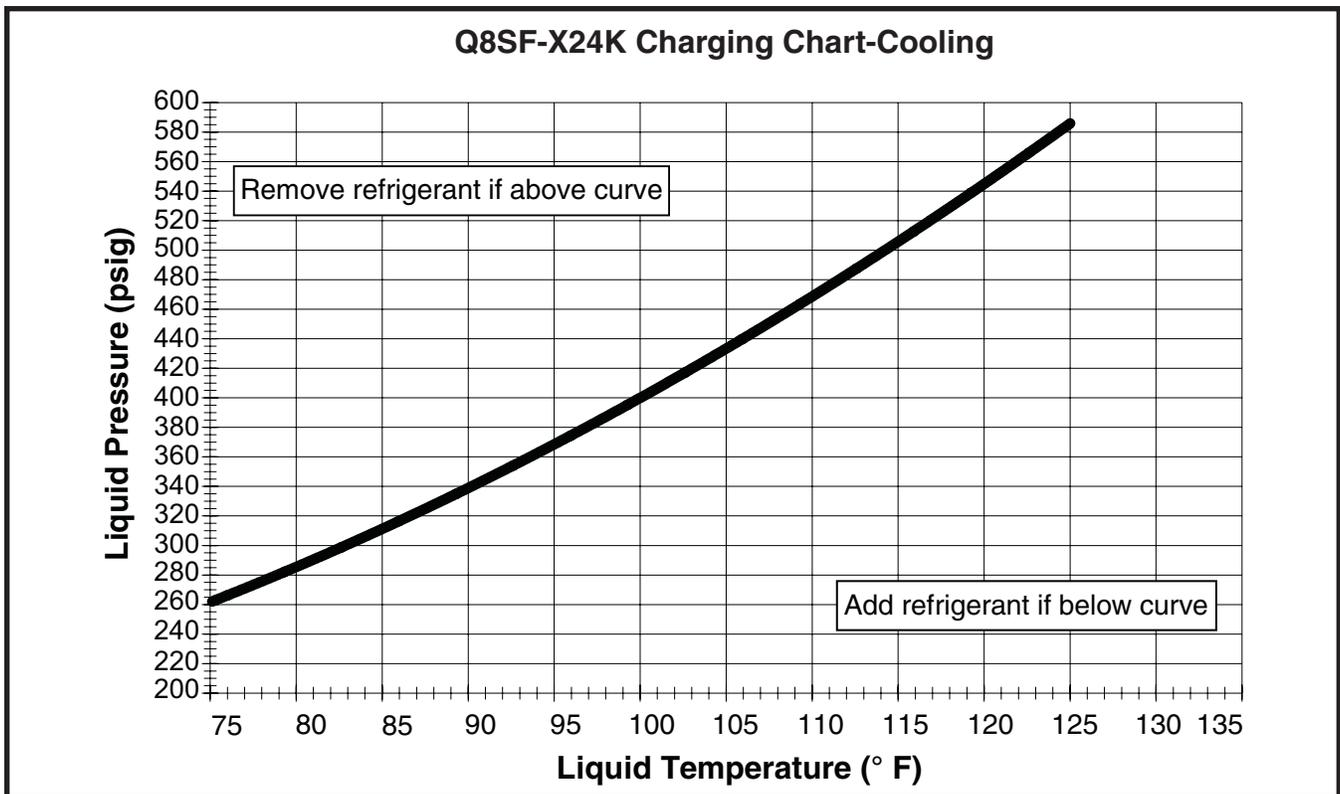
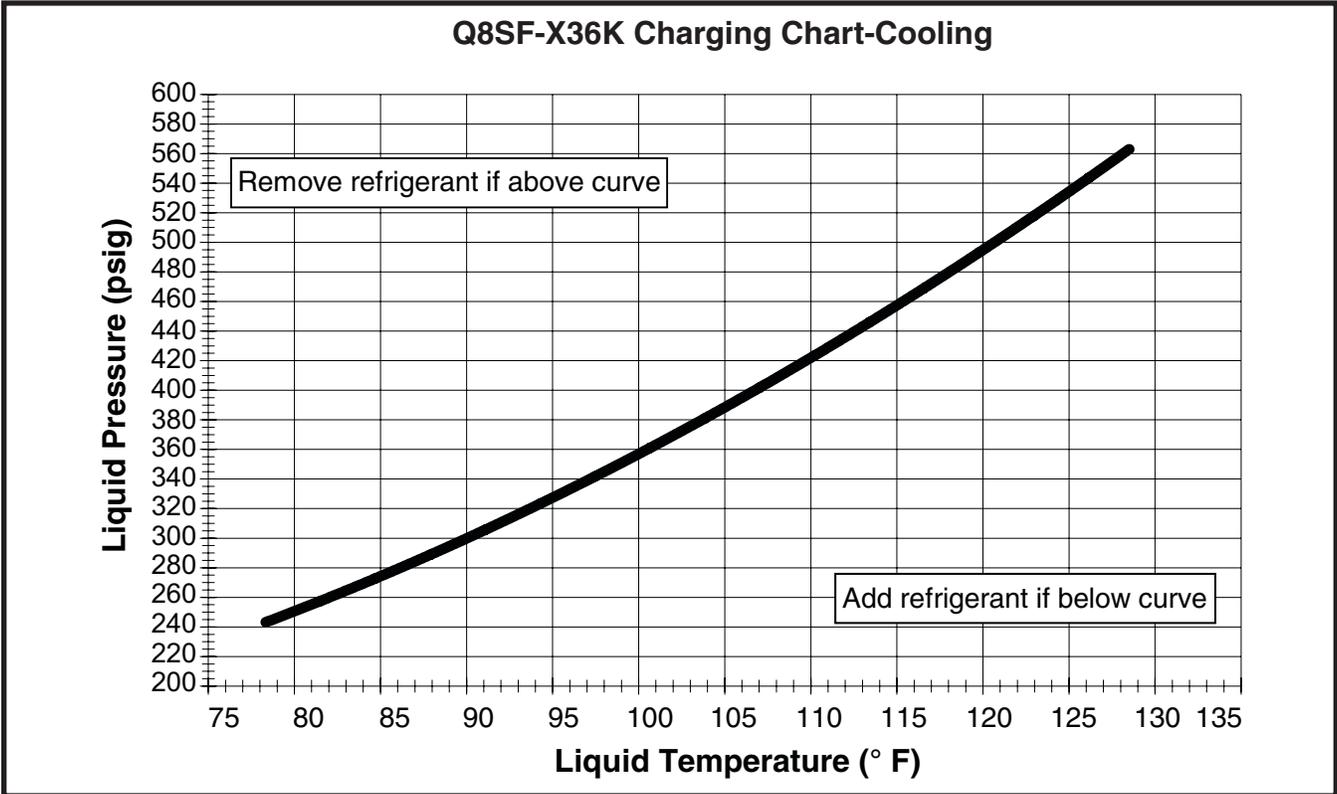
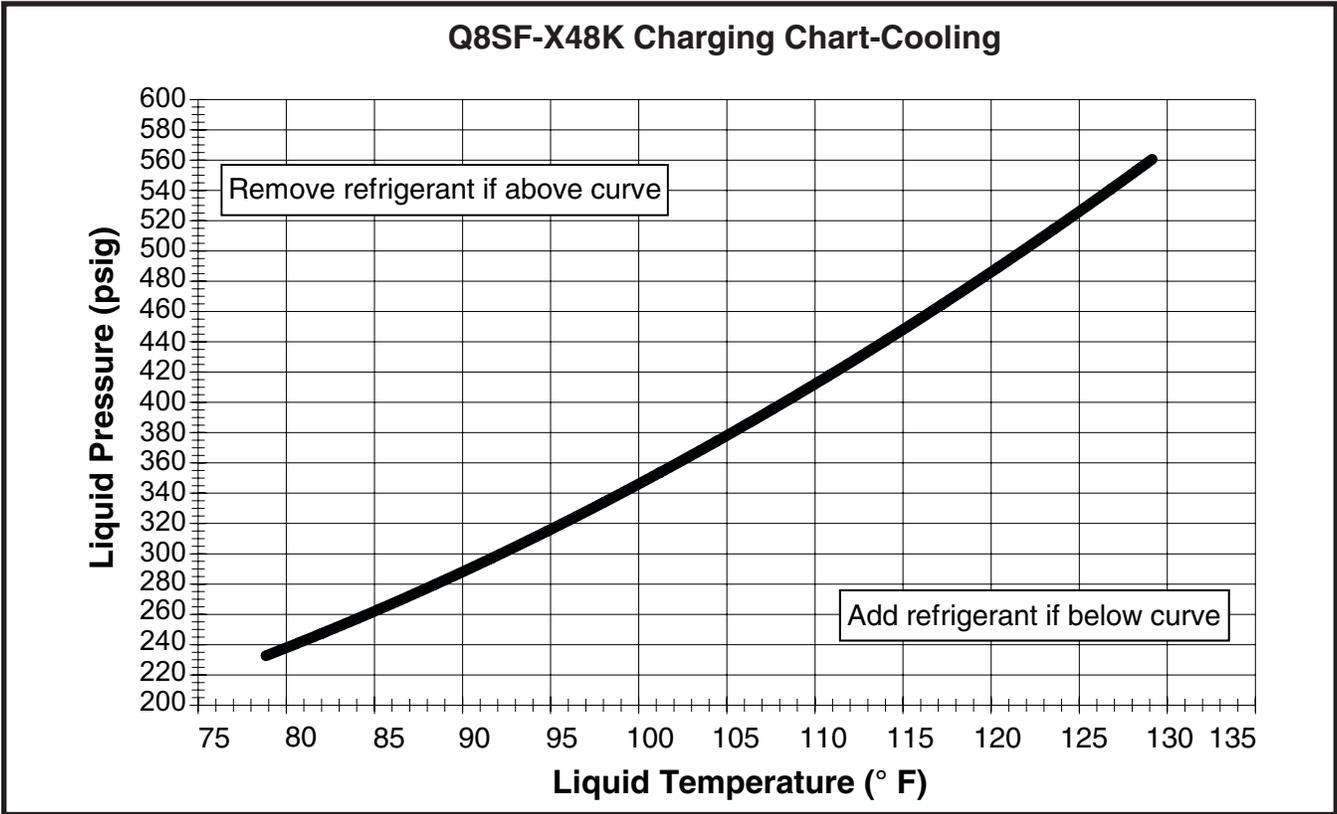

Figure 7. Charging Chart for 2 Ton Units
Figure 8. Charging Chart for 3 Ton Units
Figure 9. Charging Chart for 4 Ton Units
- The refrigerant charging charts are applicable at listed airflows and minimum indoor and outdoor air temps. See Figure 7 \(page 11\), Figure 8 \(page 12\), & Figure 9 \(page 12\).
3. For the temperature measured, determine the required liquid refrigerant pressure from the appropriate charging charts in Figure 7 \(page 11\), Figure 8 \(page 12\), & Figure 9 \(page 12\).
- Charging charts are valid for a variety of indoor, return air conditions and are most influenced by the outdoor ambient temperature, outdoor fan operation and the unit operating voltage. Before using these charts, make sure the unit is in a stable operating mode. As shown in the charging charts, the ideal system sub-cooling can vary over the range of operation. Reference the charts (Figure 7 (page 11), Figure 8 (page 12), & Figure 9 (page 12)) to determine the ideal amount of sub-cooling for a given liquid pressure. Units charged to other values will not perform at the rated unit efficiency (EER) or rated Coefficient of Performance (COP) in heating mode.